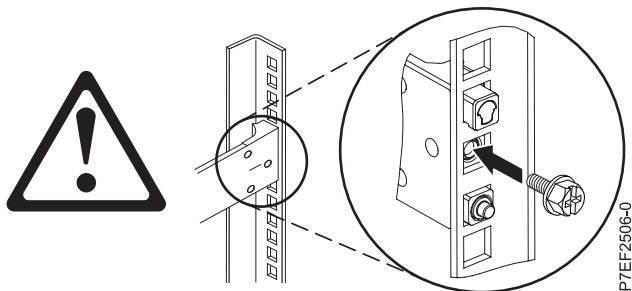

Figure 4. Reinstalling the screw
4. Reinstall the screw that was removed in step 2 on page 4, as shown in Figure 4.